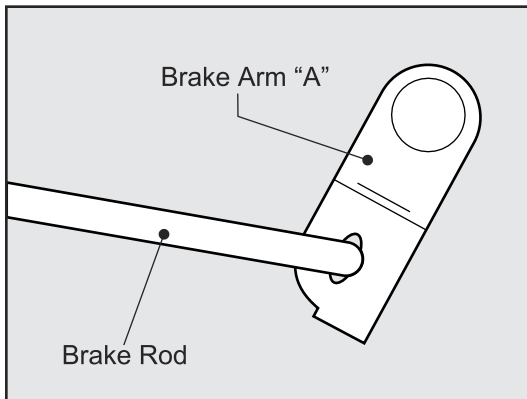

Fig. 8, Brake Arm Assembly
1. Install a new O-ring onto the Brake Arm. (Fig. 8)
2. Attach the Brake Rod to the Brake Arm; then, to the Brake Shaft. (Fig. 8, 9)